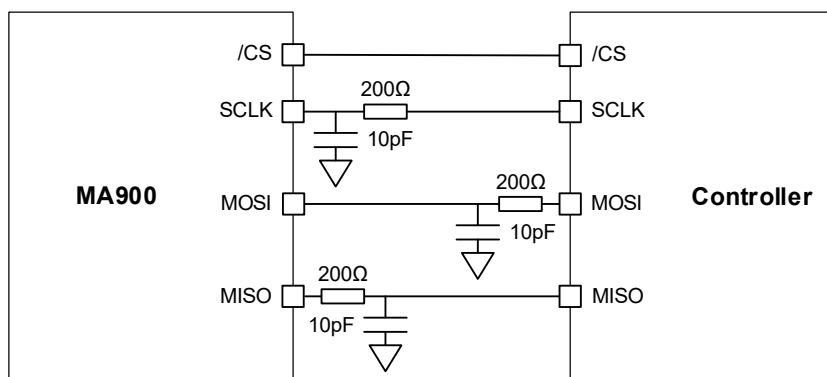

Figure 10: Examples of RC Low-Pass Filters on the SPI Signals
- Insert an RC low-pass filter on SCLK (see Figure 10). This RC filter must be located
- Insert RC low-pass filters on the CIPO and COPI signals (see Figure 10). The RC filter on COPI must be located close to the controller, while the filter on CIPO must be located close to the sensor. It is recommended to use a 200Ω resistor with a 10pF capacitor.